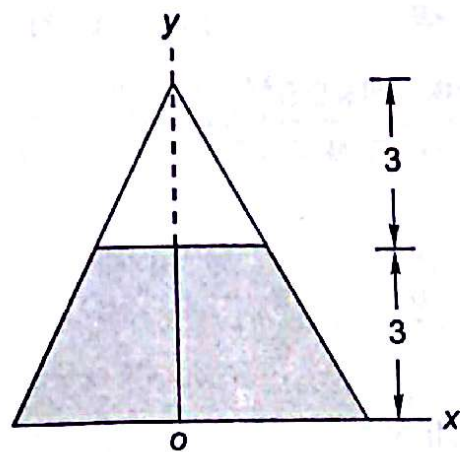

Fig. 5.19
5.6 What is \bar{y} of shaded area of a triangle (Fig. 5.19)?